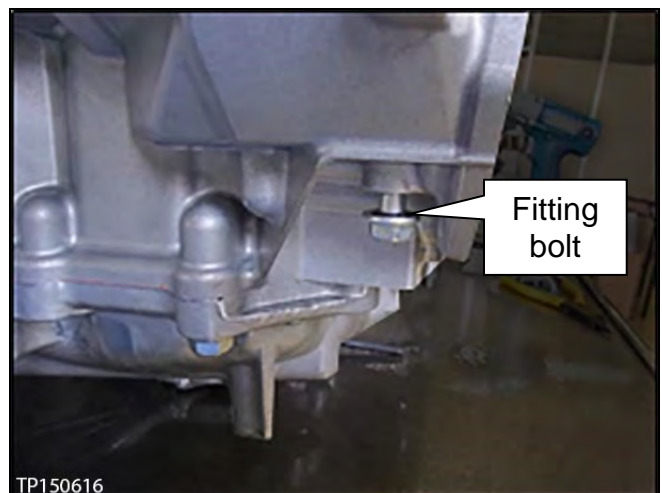

Figure 64
5. Install the oil pump fitting bolt finger tight (see Figure 64).
6. Torque the three (3) Allen™ head bolts and fitting bolt.